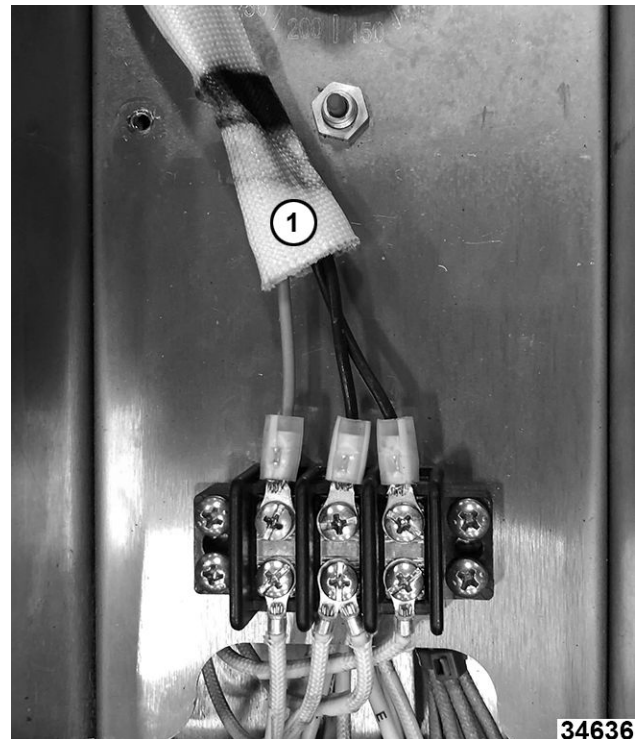

Fig. 23
8. Disconnect incoming power wiring (1, Fig. 23) from terminal block.